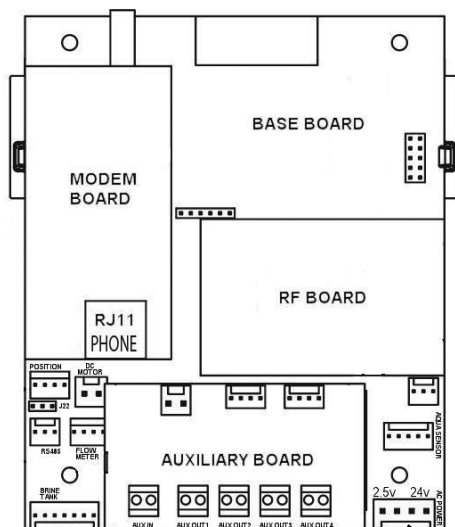
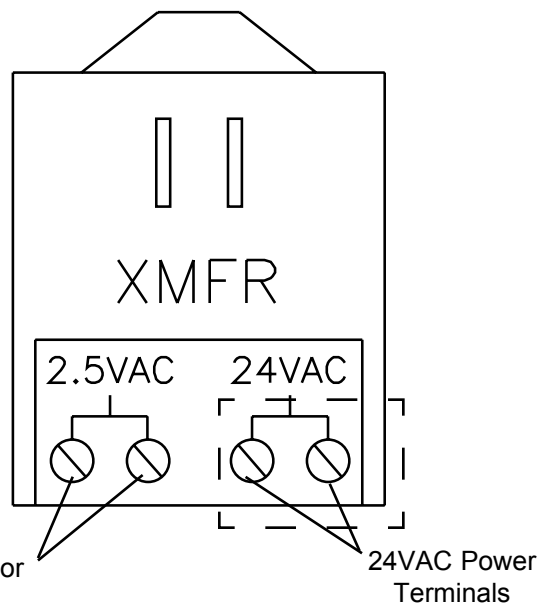

Figure 11
Figure 12
6. Plug the board connector to the board where it says "**24v**". The connector has four (4) connections but only two wires are connected. The other end of the power cord (with spade terminals) should be connected to the two **24VAC** terminals on the transformer (see figure 12).
1. Connect one wire from the 24V cable to the outermost 24VAC transformer screw terminal (Reference Figure 12). The other end of the wire should be connected to one of the 24V terminals on the GBE control circuit board (Figure 11) by way of the white connector.